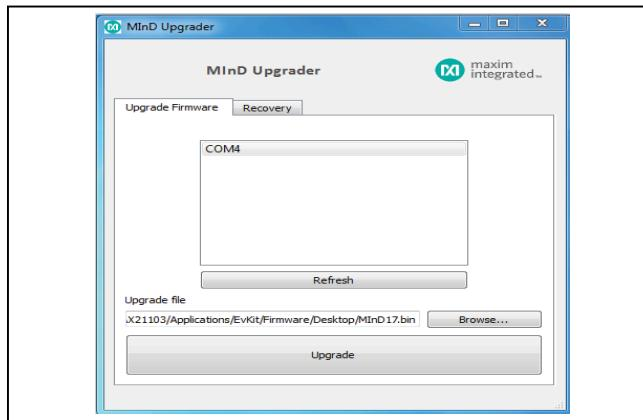

Figure 32. Battery Connection
- 3) Click the **Browse...** button in the *upgrade file* area to select a <MInDFW_x_y.mindu> firmware package file (Figure 32).